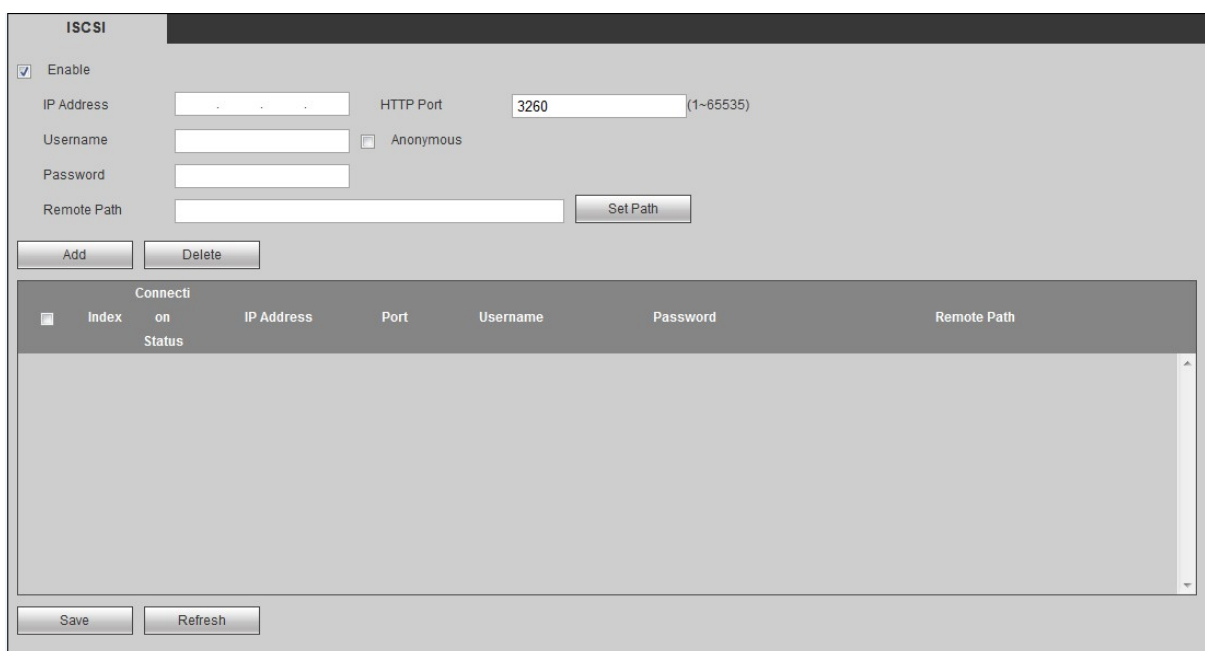

Figure 4-58
Step 1 Select “Setup>Storage > ISCSI”. The system displays “ISCSI” interface, as shown in Figure 4-58.